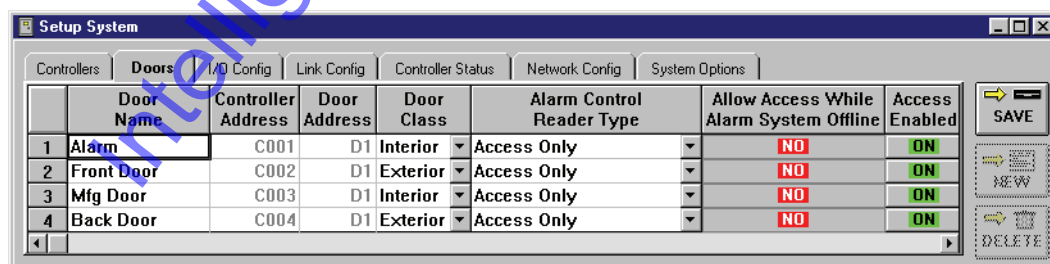

Figure 12-4: Setup System - Doors Tab
Once the Alarm Control feature has been enabled and the access control network has been updated, two columns (Alarm Control Reader Type and Allow Access While Alarm System Offline) are added to the **Doors** tab in the Setup System window (see Figure 12-4). These columns allow for specific configuration of the readers associated with the Alarm Control panel.
- To assign an Alarm Control Reader Type, click on the Setup ⇒ System pull-down menu or click the  button on the tool bar. Then click on the **Doors** tab. The Doors window appears (see Figure 12-4).